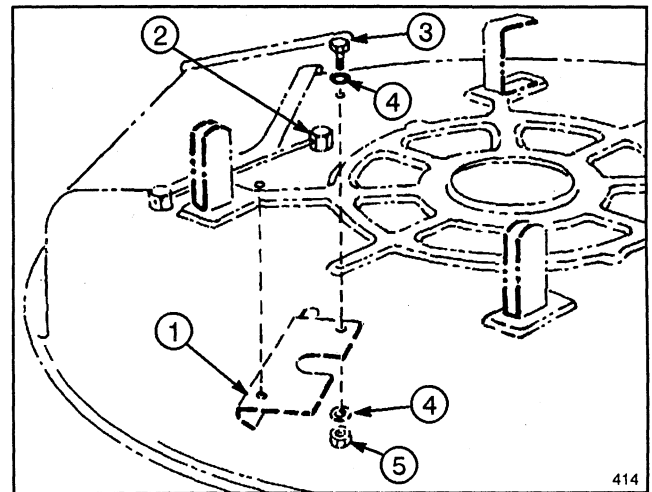

Figure 3
1. Remove (2) capscrews, washers and lock nuts securing baffle to underside of mower housing (Fig. 3).